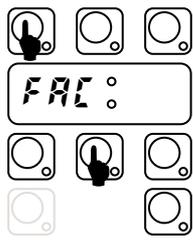

Fig. 43 Factory setting mode.
- Enter into the FACTORY SETTING mode: press and hold down ON/OFF and CYCLE_2 keys for at least **5 seconds** (Figure 43);